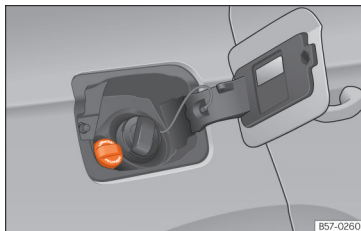

Fig. 182 AdBlue tank cap.
- Open the tank cover »» **Fig. 182**.